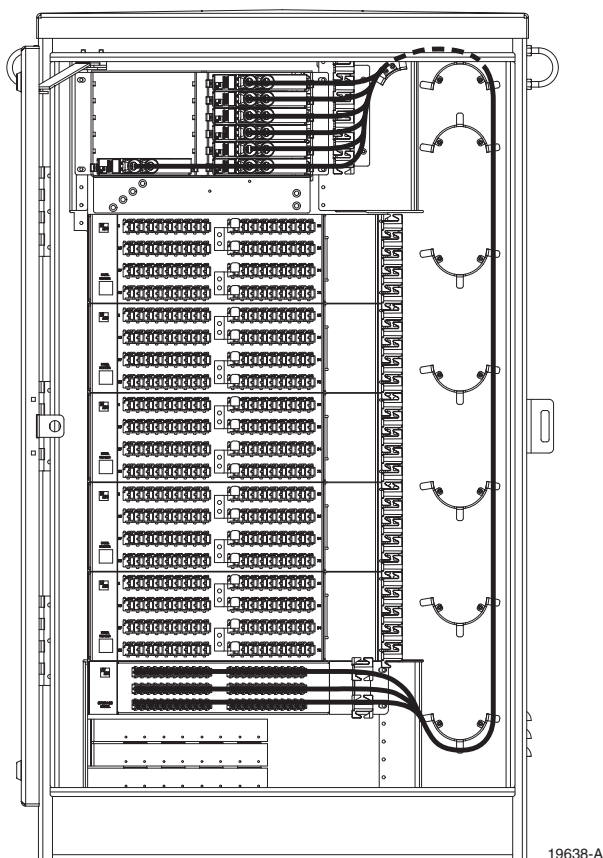

Figure 37. Routing To Storage Panel
1. Following installation of a splitter, route each splitter output fiber over the top spool on the right side of the cabinet as shown in Figure 37.